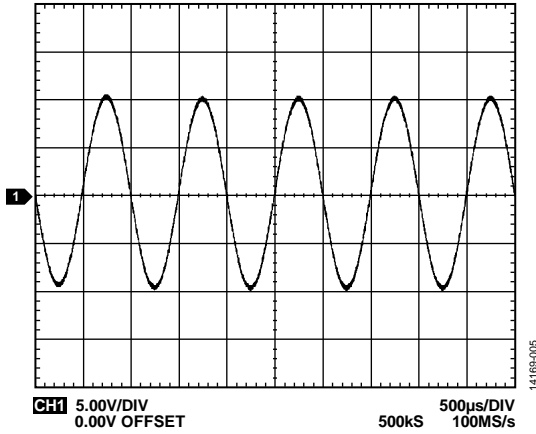

Figure 5. Output of the AD8253-EVALZ when  $G = 1000$  and the Input Signal is 10 mV in Differential Amplitude
- Finally, change the signal generator amplitude to a 10 mV differential signal and set Switch 3 on the SW3 DIP switch to the on position to set  $G = 1000$ . The result must resemble Figure 5.